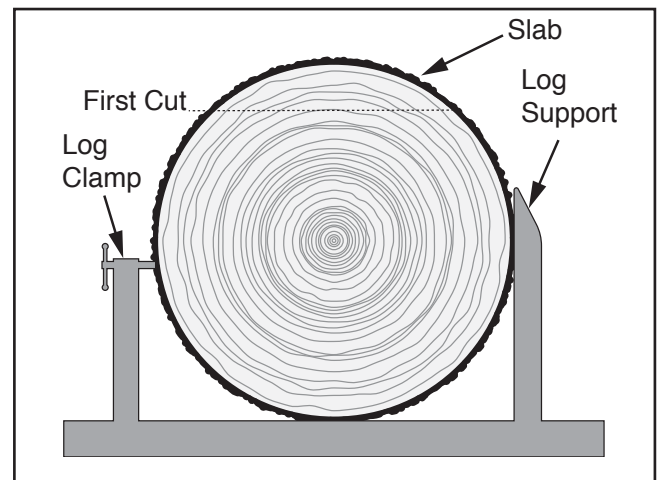

Figure 42. First cut to saw a cant.
3. Cut slab from top of log and remove it (see **Figure 42**).